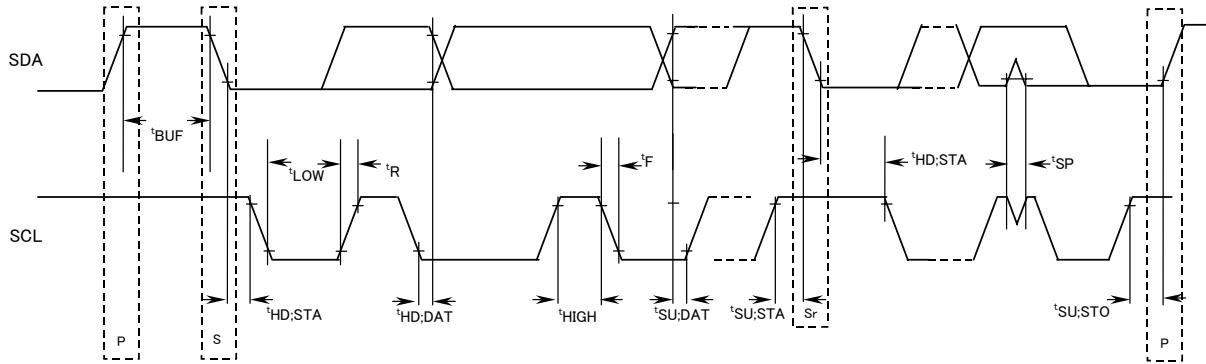

Fig.1 Definition of timing on the I²C-bus
3) Note that the maximum t_F for the SDA and SCL bus lines quoted in Table 1 (300ns) is longer than the specified maximum t_{OF} for the output stages (250ns). This allows series protection resistors (Rs) to be connected between the SDA/SCL pins and the SDA/SCL bus lines as shown in Fig. 1 without exceeding the maximum specified t_F.